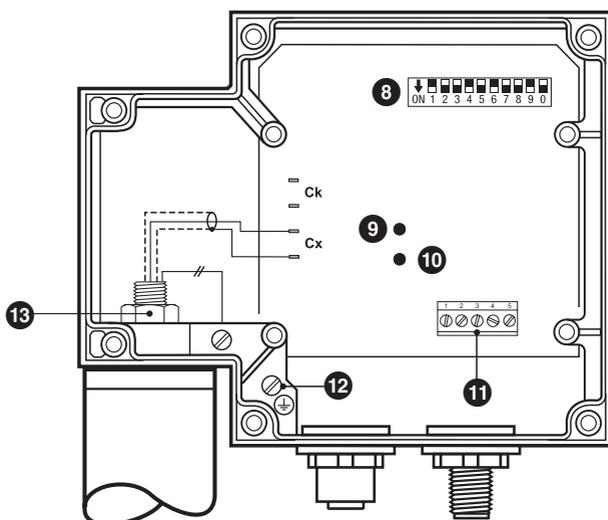

Fig. 6
2. Loosen nuts ⑬ with 19 mm spanner. Do not remove them! **Fig. 6**